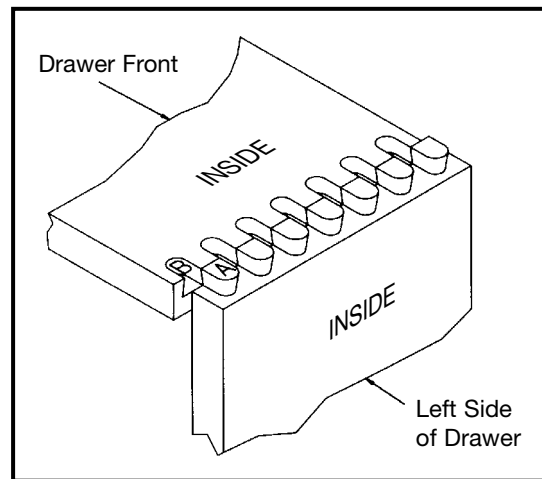

Fig. 10
6. Next, examine the drawer pieces to make sure they have been cleanly routed. See Fig. 10.
7. Remove drawer pieces and fit together, matching dovetail (A) with slot (B), Fig. 10.